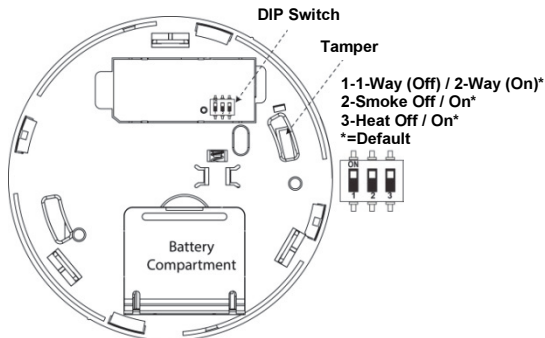

Figure 8: Unit backside: batteries compartment, tamper and DIP switch
- ◆ Dead-air spaces, which are often at the top of a peaked roof, or in the corners between ceilings and walls. Dead air may prevent smoke from reaching a detector. See Figures 8 and 9 for recommended mounting locations
1. [For one-way operating mode]: Set the DIP switch 1 to 1-way, and configure either smoke (2), heat (3) or smoke and heat.
3. Open the battery compartment cover (see Figure 8).